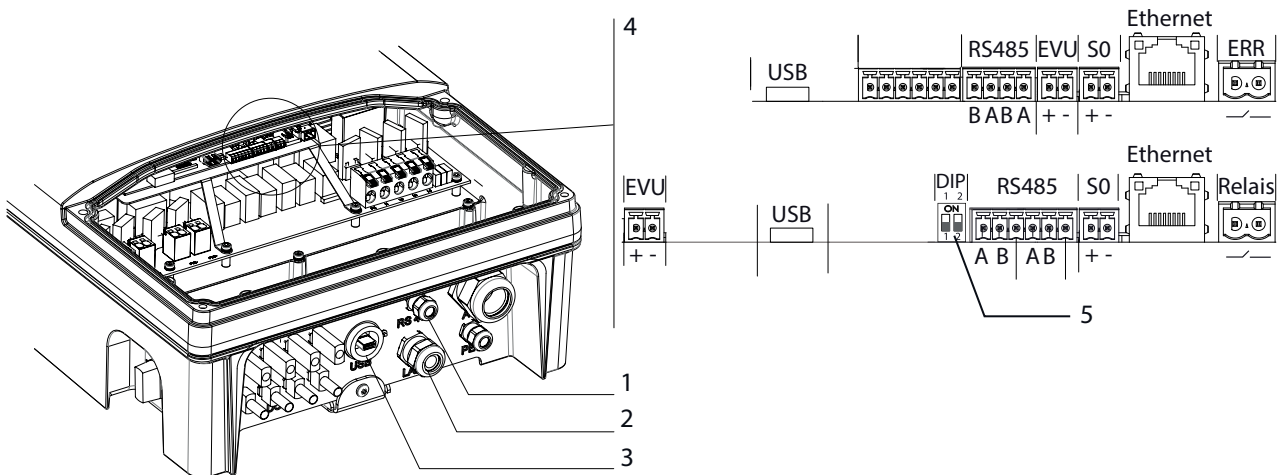

Figure 22: Connection area: Connection and assignment of the interfaces Top: variant 1. Bottom: variant 2.
All interfaces are located on the connection circuit board behind the cover for the connection area. Use the cable fittings and plug connections provided (see Figure 22 on page 24).
1. Loosen and remove the cover of the cable fitting (see Figure 22 on page 24).
5. Connect the connection cable to the Ethernet interface (see Figure 22 on page 24).
1. Unscrew the cable fitting (see Figure 22 on page 24).
- 1. Connect the connection cable to the corresponding connection terminals (Figure 22 on page 24).